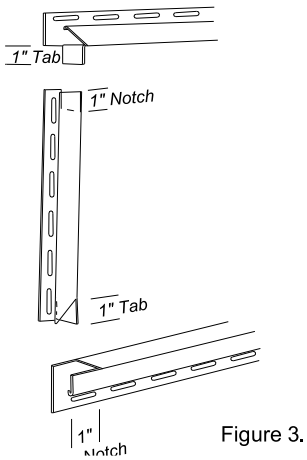

Figure 3.
- Place the corner post so that there is a 1/4" gap between the post and any overhang or eave. The corner post should continue 3/4" past the bottom of the starter strip. Position fasteners at the top of the upper slots on both sides of the post. Hang the post with these two fasteners. Continue to secure the post by placing fasteners in the center of slots at 8" to 12" intervals. Leave 1/32" gap between the fastener and the post (Fig. 3). Trim off the nail hem area that will be exposed below the siding.
- Cut and install J channels as shown (Fig. 3).